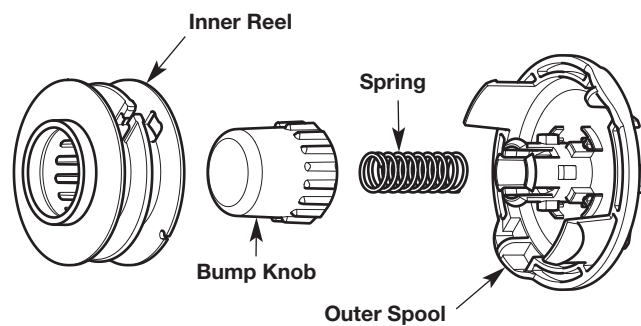

Fig. 20
3. Remove the inner reel and bump knob (Fig. 20).
4. Remove the bump knob from the inner reel (Fig. 20).
5. Remove the spring (Fig. 20).